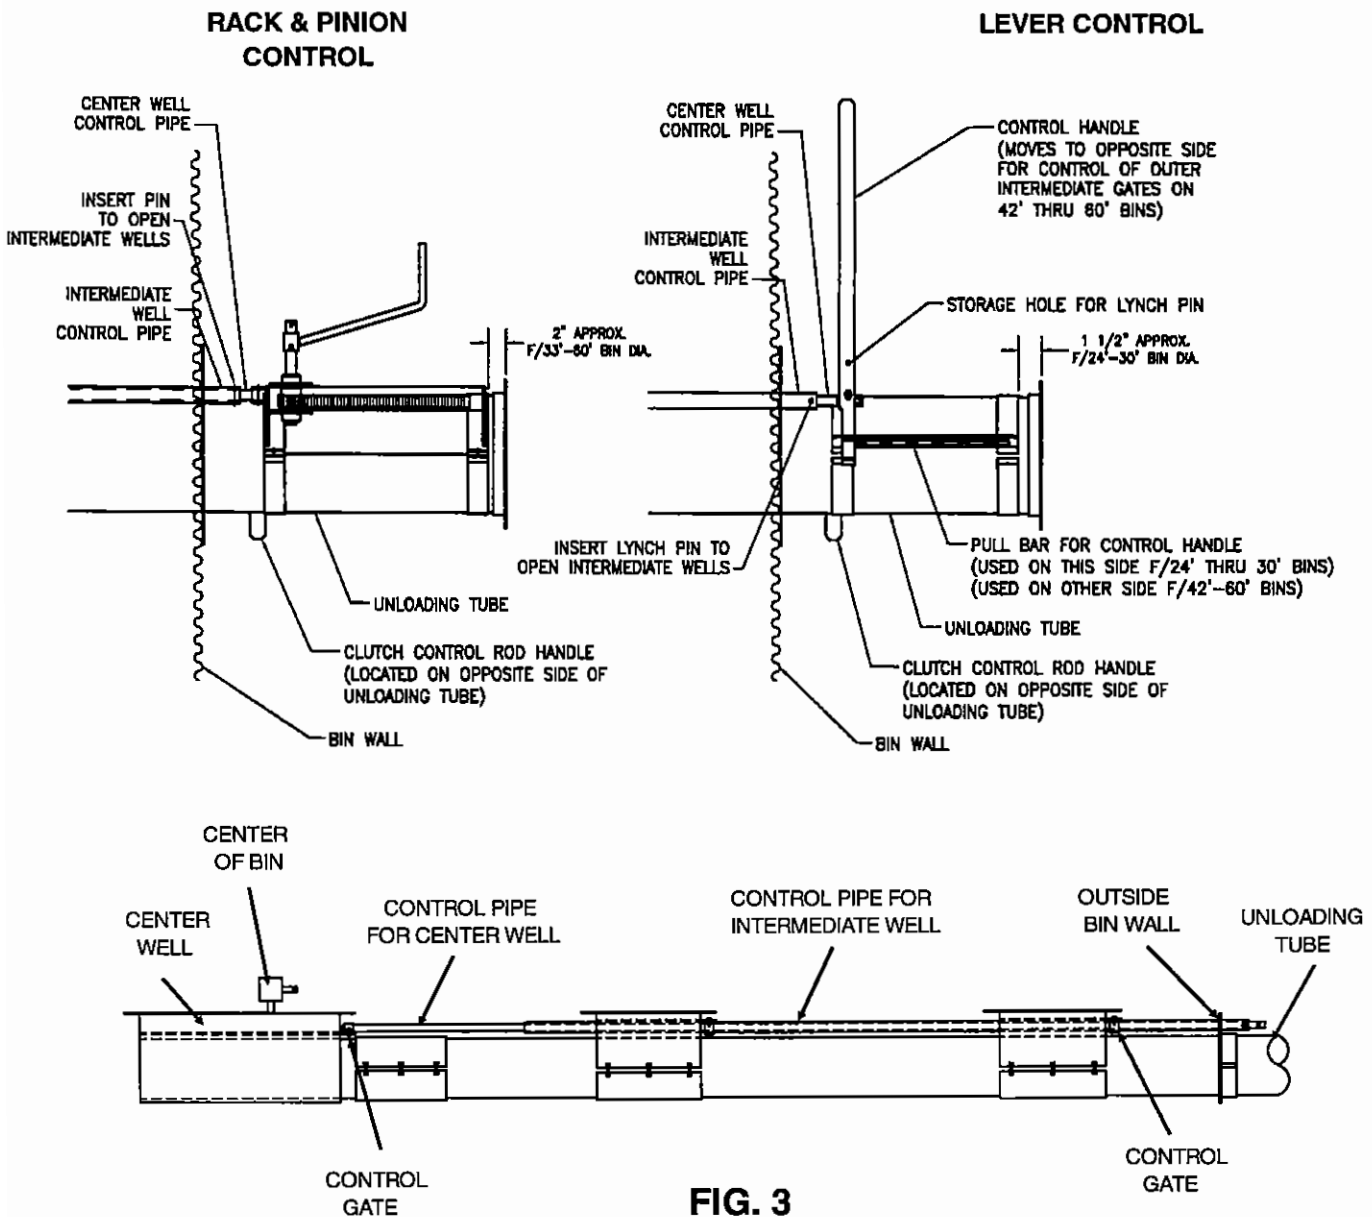

FIG. 3
- A. Close the center well and the intermediate well gates. Push the control pipes to close. (See Fig. 3 on page 8.)
B. Open the center well gate which is the small pipe on the top side of the auger tube. Make sure lynch pin has **not** been inserted through the intermediate control pipe. See Fig. 3. Open gradually until the desired flow is established. It should not be necessary to open the gate more than 3 to 6 inches. Always close the center well gate and allow the unloader to clean out before stopping the unloader. When restarting open the center well gate to the previous position immediately after starting the unloader. When using the rack and pinion control, it will be necessary to ratchet handle 180° as the handle gets close to the bin well.
- C. When grain flow stops from center well, close the center well gate and insert lynch pin through the intermediate well control pipe. (See Fig. 3.) Now you will be able to open the intermediate well. *Open gradually until the desired flow is established. It should not be necessary to open the gates more than 2 to 4 inches.